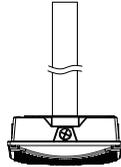

Figure 2
2. Screw the fixture to the 3/4"NPT Stem (Figure 2).